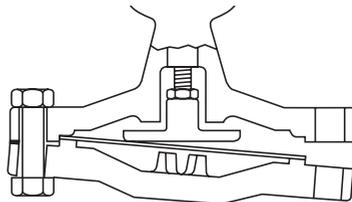

Fig. 10
2. Undo the long union nut (32) and pull it away.
3. Undo the M12 nuts and bolts (23) and drop away the lower diaphragm chamber (22), the two stainless steel diaphragms (24) and the main diaphragm plate and pushrod assembly (25, 26, 30).
5. Replace the main diaphragm plate and pushrod assembly and loosely refit the lower diaphragm chamber on the two bolts either side of the union connection, see Figure 10 so that the spigot is located into the recess. Also ensure that the connecting stainless steel pipework is located into its fitting.
6. Bring the two main diaphragms together and slide into position, first easing the diaphragm plate upwards to clear, see Figure 10.